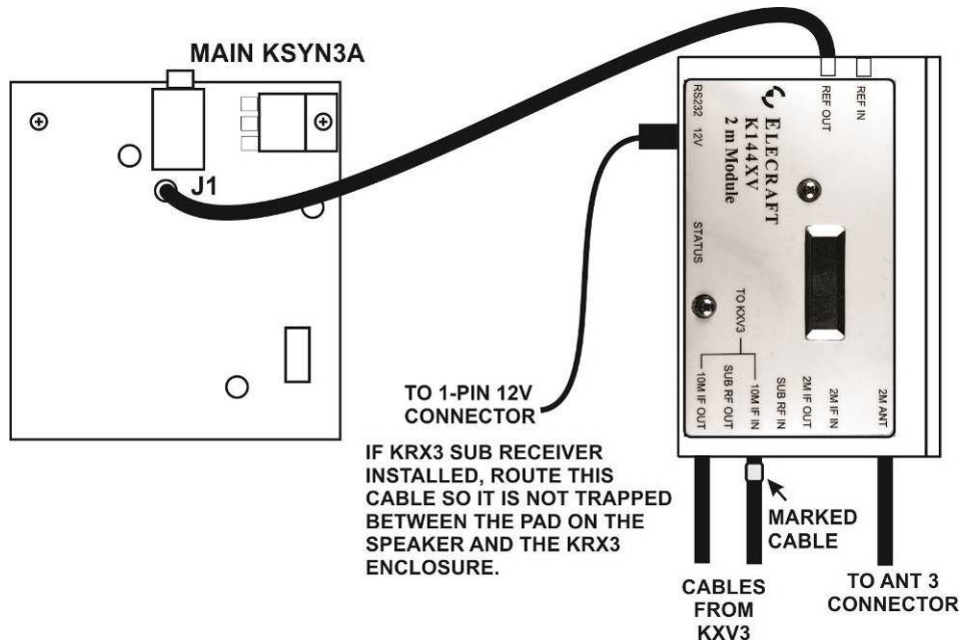

Figure 16. K144XV Cabling with KSYN3A and K144 Ref Lock.
- If you have the optional K144XV Ref Lock installed and your K3 has the original synthesizers (with a large toroidal inductor near the center, see Figure 16